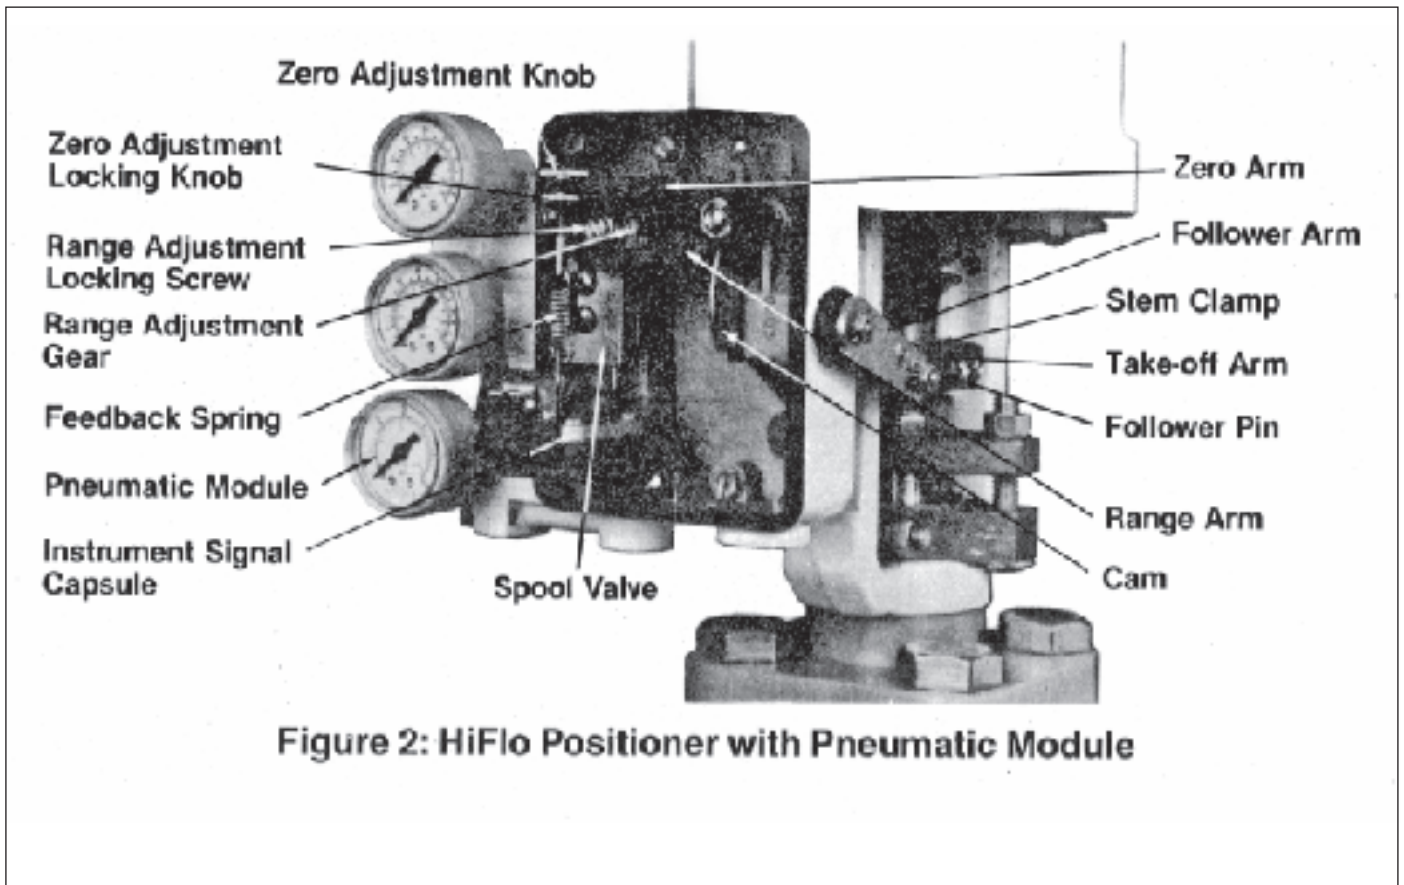

Figure 2: HiFlo Positioner with Pneumatic Module
3. Bolt the take-off arm to the stem clamp so that the arm curves upward (toward the cylinder) - if it is not welded to the stem clamp. The holes and slots should line up in the follower arm and the take-off arm respectively. Figures 2 should be referred to.
Please refer to Figure 2 for Calibration. Proceed as follows :
Please refer to Figure 2 or 5 to remove or repair the positioner pilot valve. The procedure to be followed is given below.